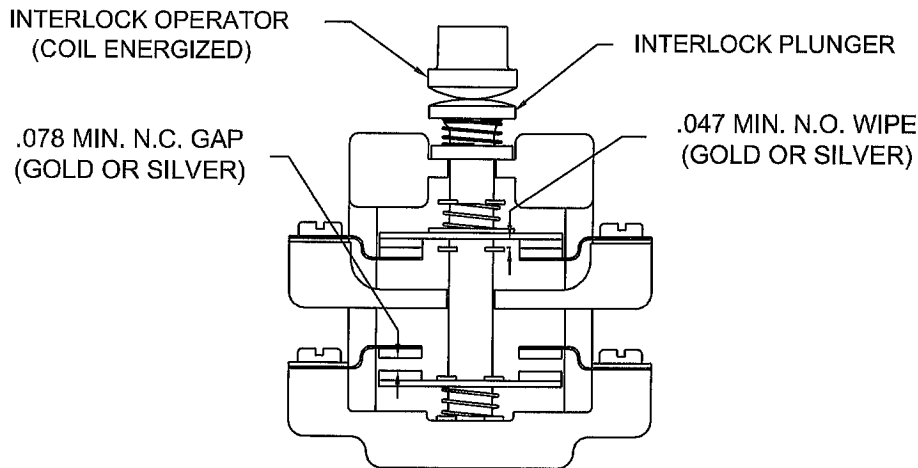

FIGURE 3
2.2. With main contact wipe adjusted, hold the interrupter/contacter in the kiss position by pulling the armature toward the coil. Adjust the interlock operator so that it touches the interlock plunger within ± 0.010 inch. Energize the coil and verify minimum N.O. contact wipe at .047 and minimum N.C. gap at .078. If necessary, adjust the operator to obtain the minimum gap and wipe. Finally verify that there is at least .063 interlock stroke remaining with the coil energized by inserting a .063 spacer between the interlock operator and interlock plunger. Reference figure 3.